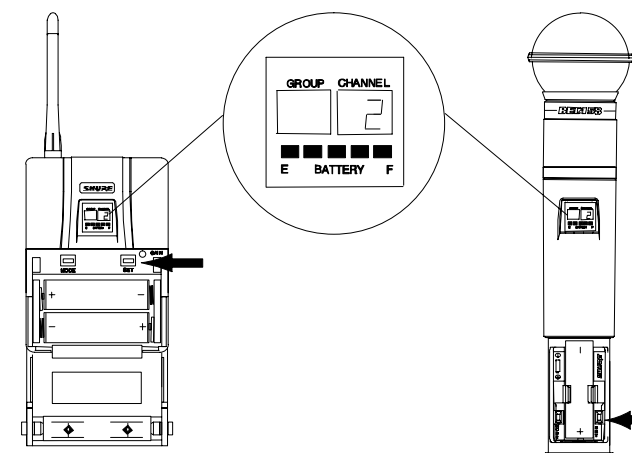

FIGURE 41
6. Press the SET button to change the Channel setting, as shown in Figure 41.